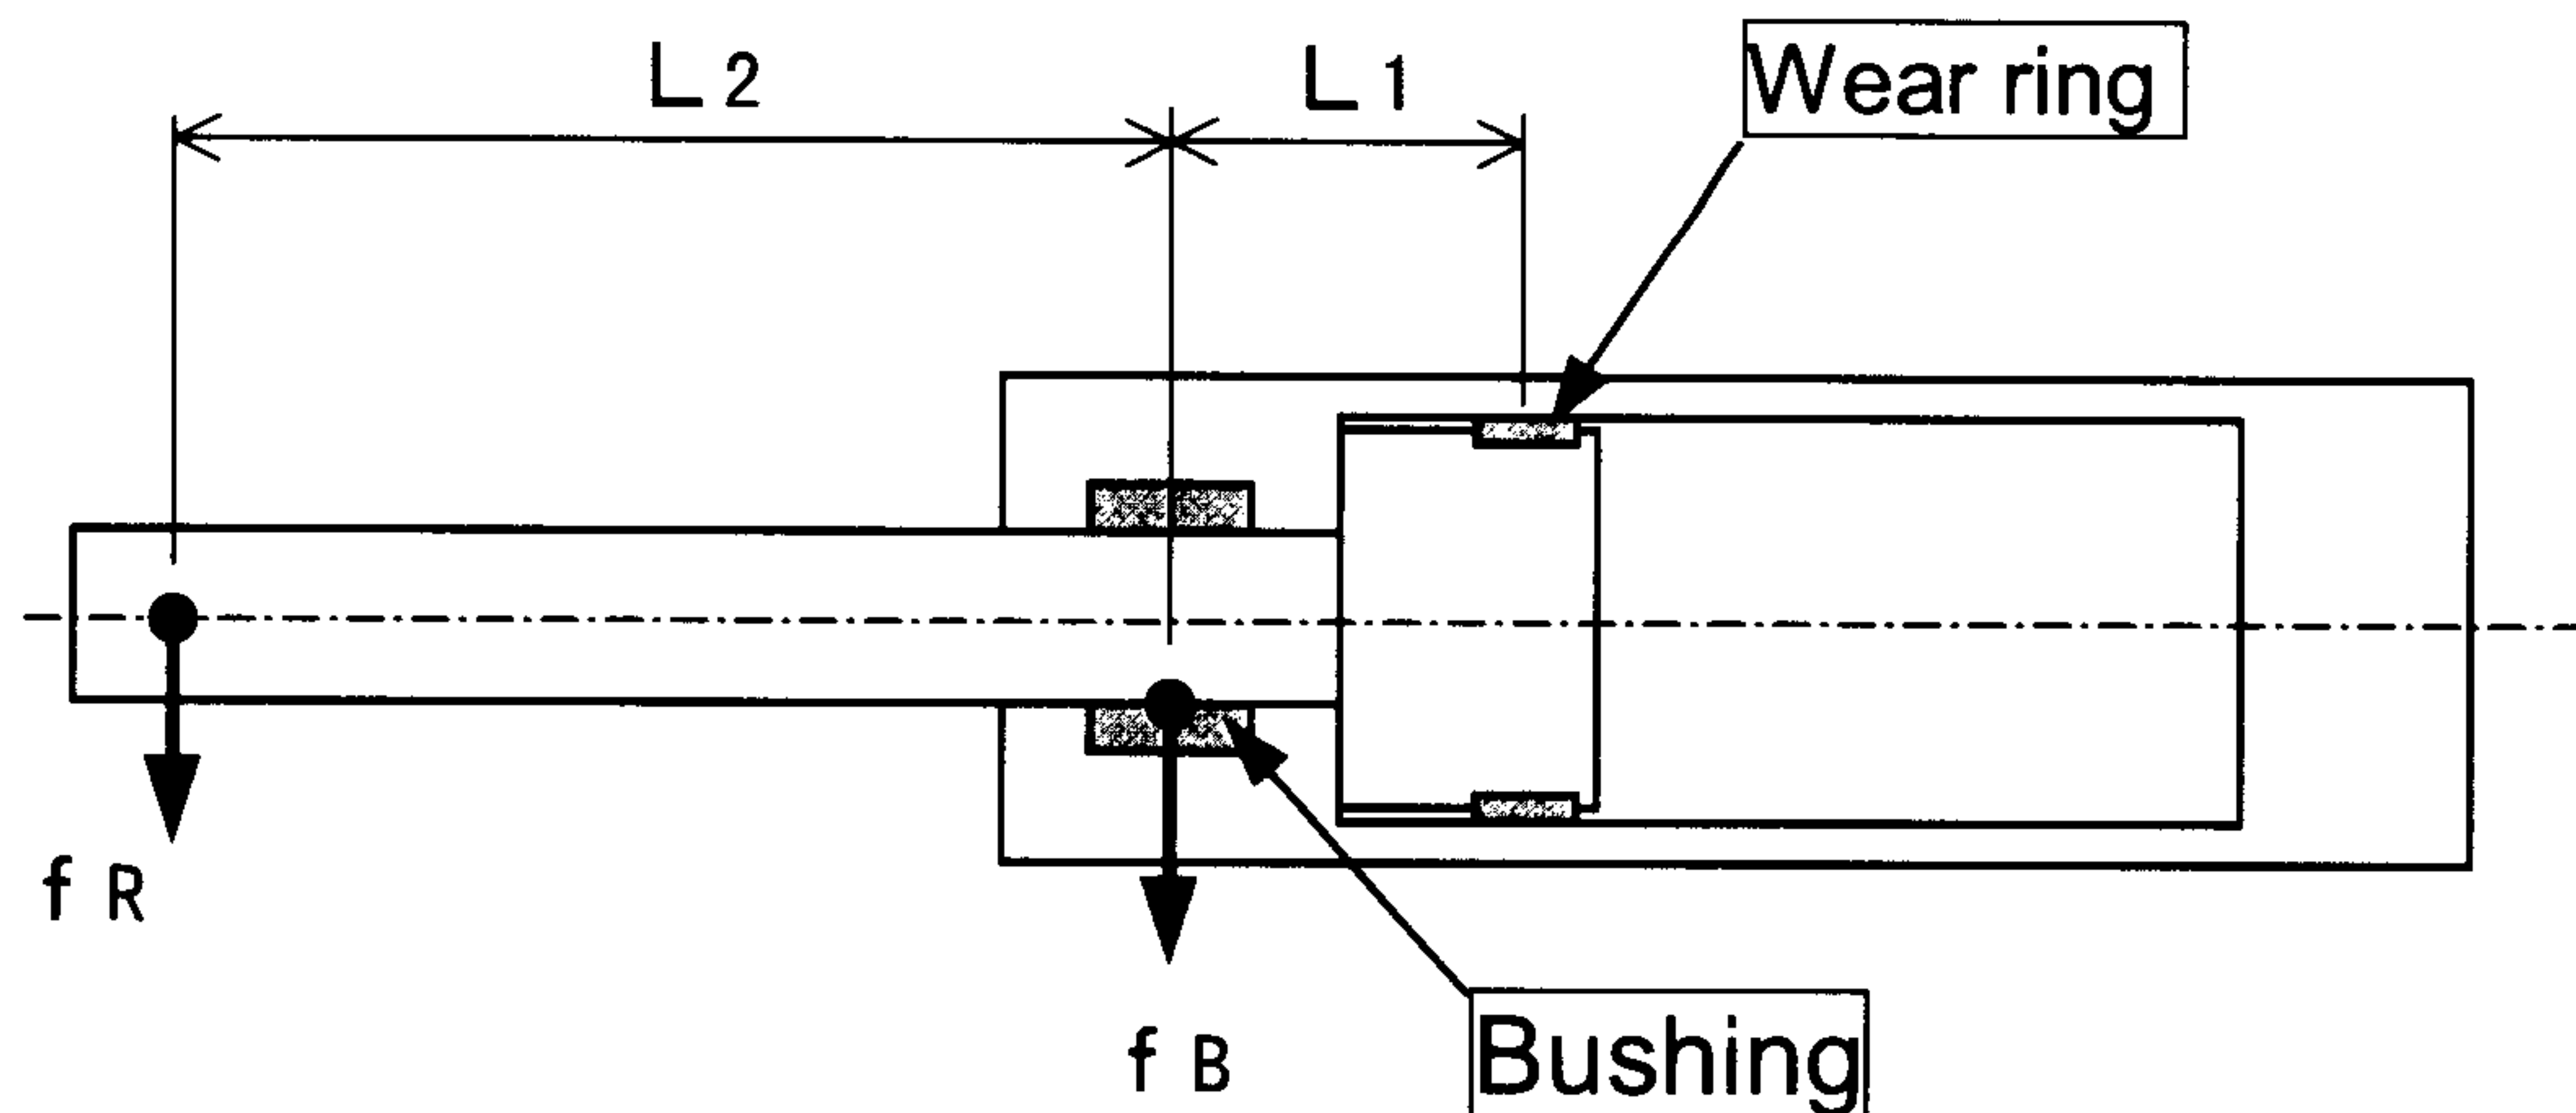

Figure 2 Eccentric load to piston rod
- 6-1. Lateral load on the cylinder bearing shall be 1/20 or less of the maximum cylinder output force. (See Figure 2 and Table 2).